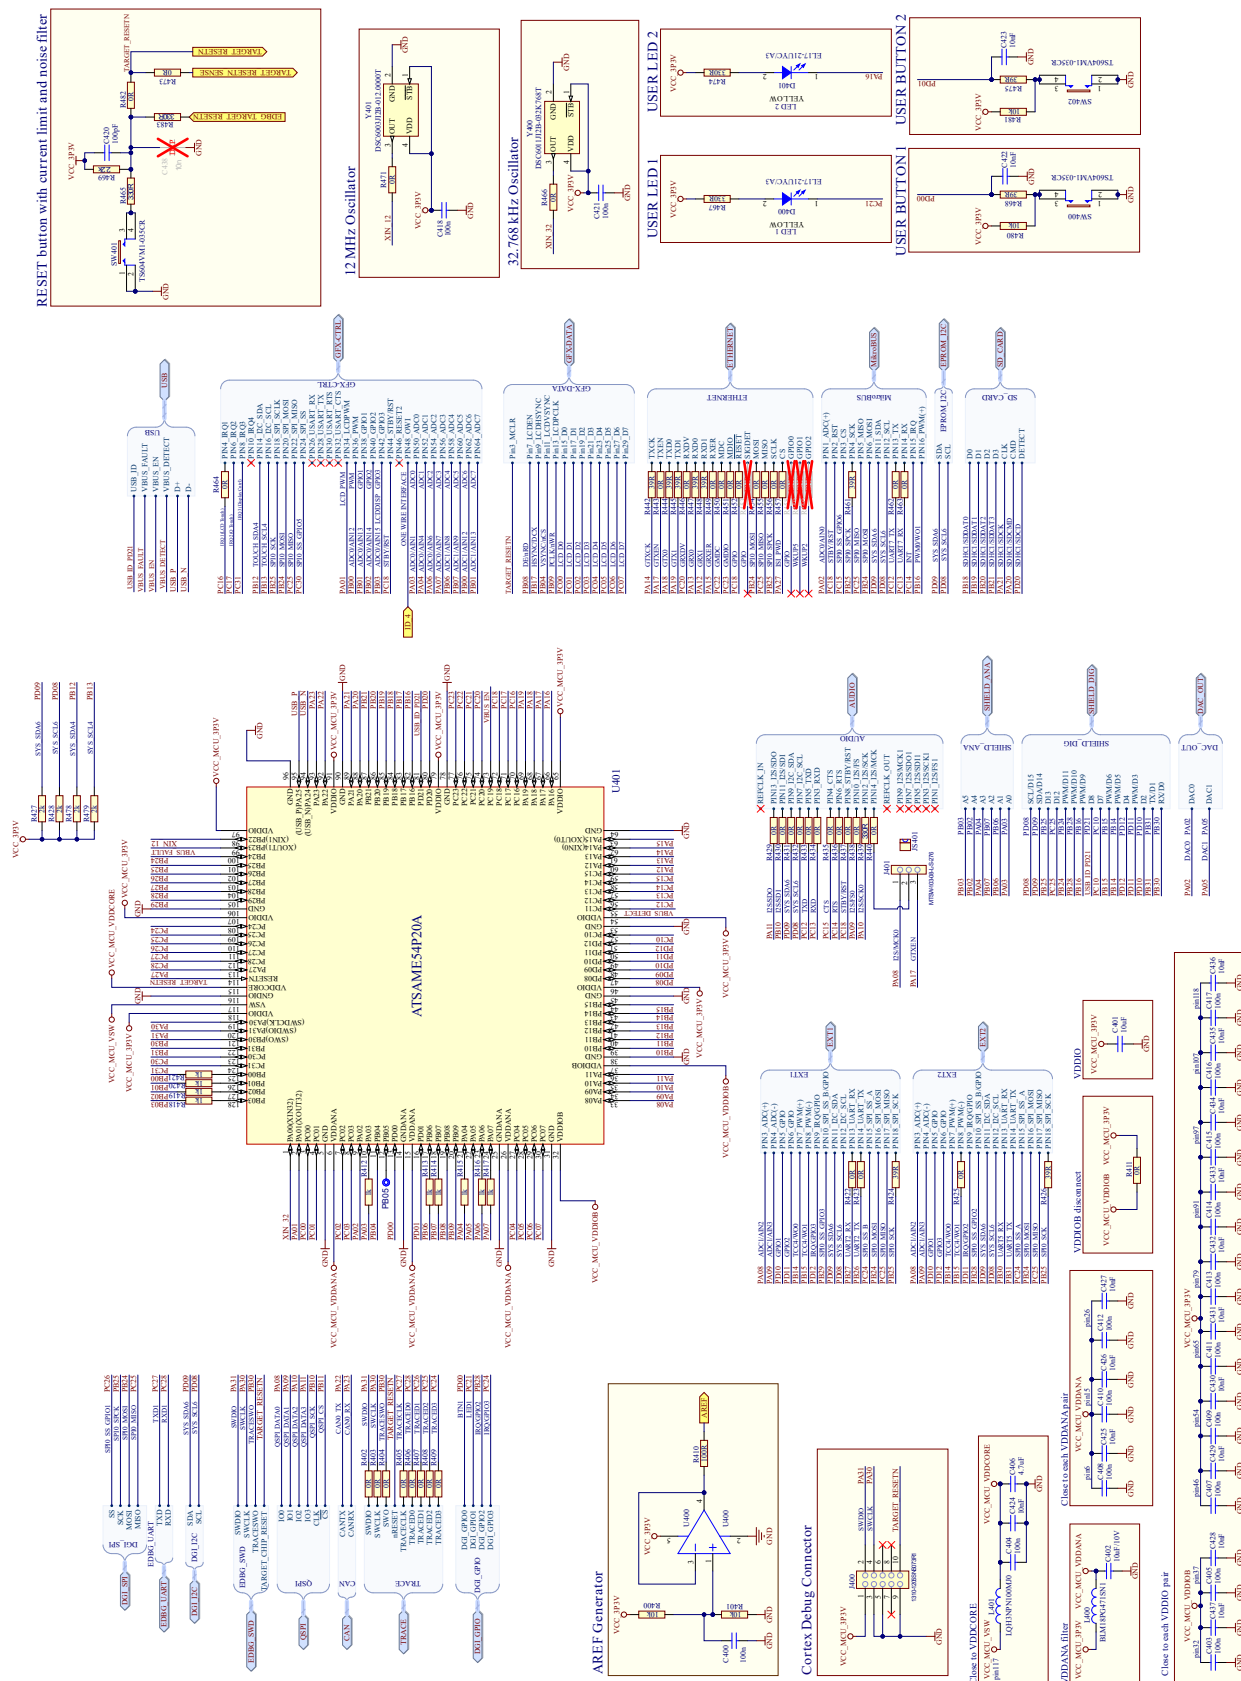

Figure 2-5. Arduino UNO Schematic
- Arduino UNO Schematic, Figure 2-5